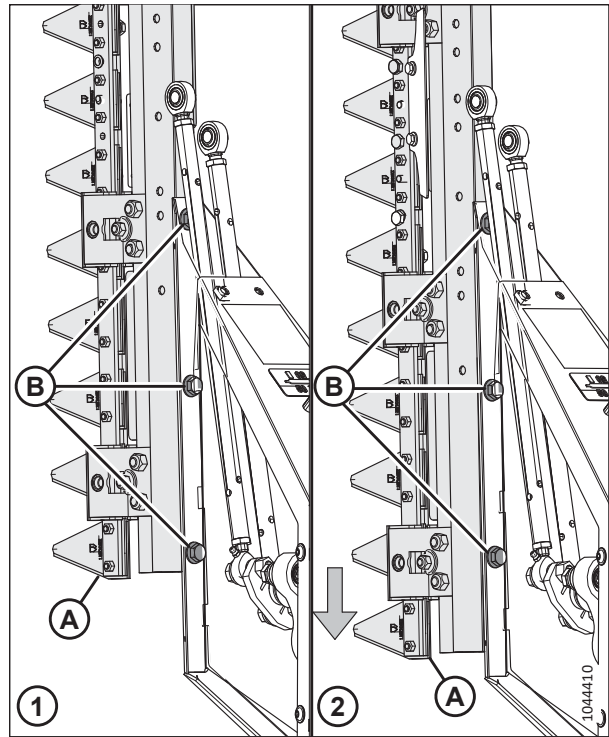

Figure 4.376: Adjusting Knife Position
13. Support knife assembly (A).
14. Remove bolts and washers (B). Clean any existing threadlocker from the bolts.
16. Reposition knife assembly (A) until the correct configuration holes line up with the holes on the frame. Refer to Figure 4.376, page 462.
17. Install bolts (B). Torque the bolts to 54 Nm (40 lbf-ft).